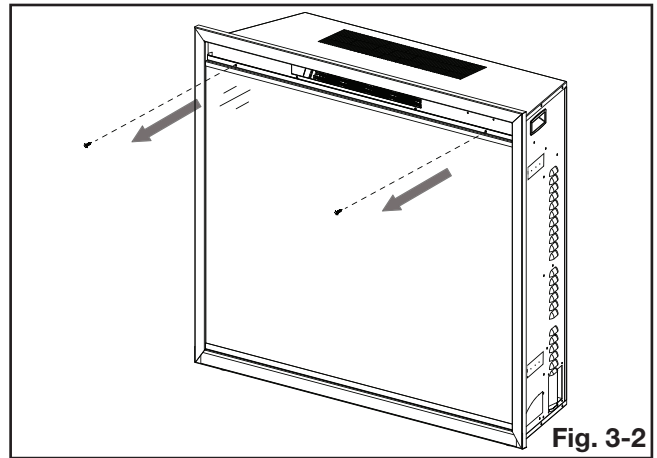

Fig. 3-2
2. With one hand on the glass door to prevent it from falling, remove the 2 screws holding the glass door in place (**Fig. 3-2**).